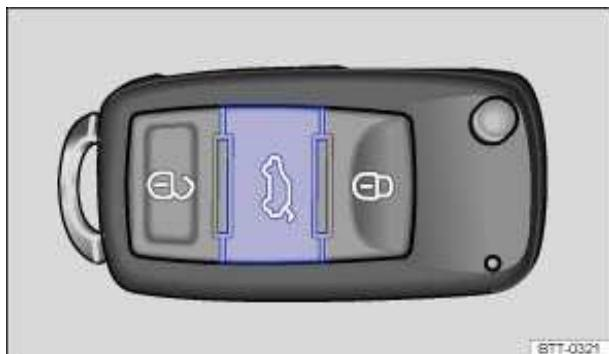

Fig. 25 In the remote control vehicle key: Button to unlock and open the rear hatch.
- Briefly press the \approx button on the remote control vehicle key \Rightarrow fig. 25 to *unlock* the rear hatch.